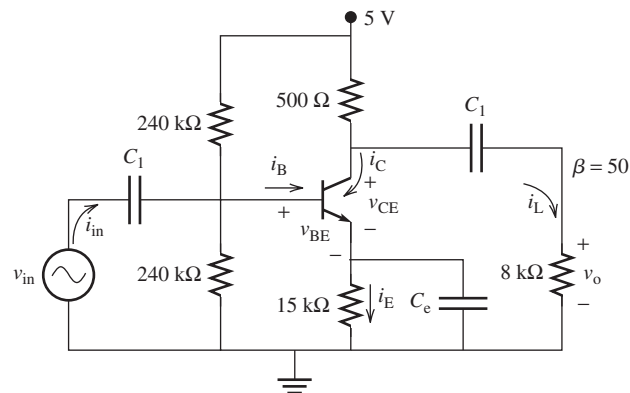

FIGURE P8.50 Circuit for Problem 8.50.
- 8.50** (H) For the circuit shown in Figure P8.50, find A_v , A_i , R_i , and R_o .